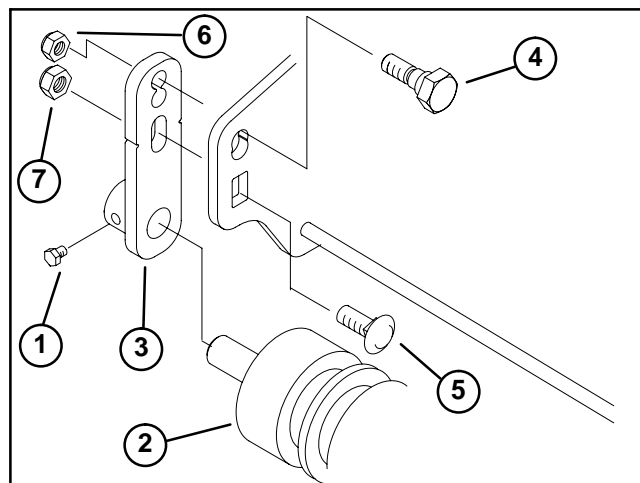

Figure 43
3. Remove cap screws securing the roller shafts to each front bracket (Fig. 43).
**Note:** The right front bracket is secured to the frame with an eccentric bolt and carriage screw, while the left front bracket is secured with a shoulder bolt and carriage screw (Fig. 43).
4. On either end of the roller, remove eccentric bolt (shoulder bolt), carriage screw, and lock nuts securing the front bracket to the frame (Fig. 43).
5. Remove the front brackets and roller from the cutting unit. Remove the front brackets from the roller shaft (Fig. 43).
3. If both front brackets were removed, position bracket as follows (Fig. 43):
4. Place roller shaft into the front bracket. Slide second front bracket on the other end of roller. Secure bracket as in step 3. (Fig. 43).
5. Apply Loctite 242 or equivalent to the cap screw threads. Center roller in the front brackets and secure into place with the cap screws (Fig. 43).